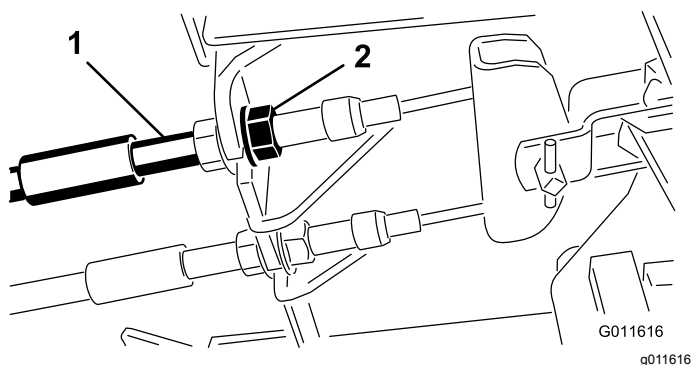

Figure 83
1. To reduce free travel of the brake pedals, tighten the brakes by loosening the front nut on the threaded end of the brake cable (Figure 83).